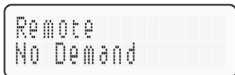

Figure 52. Remote Control Menu - Remote Operation
**⚠ CAUTION: Before installing remote controls to the digital heaters, read the following:** The digital thermostat model is remote-ready in most cases. The digital liquid crystal display (LCD) shows the actual pool temperature, operating status, and service codes. See Figure 52. The touch pad on the control panel allows you to select the desired pool or spa temperature. It also indicates when a remote system is controlling the heater by displaying **Remote** in the display. When connecting the heater to a remote system, identify whether it is a two- or three-wire remote system. Select the appropriate instruction listed below to properly install the remote to the heater.